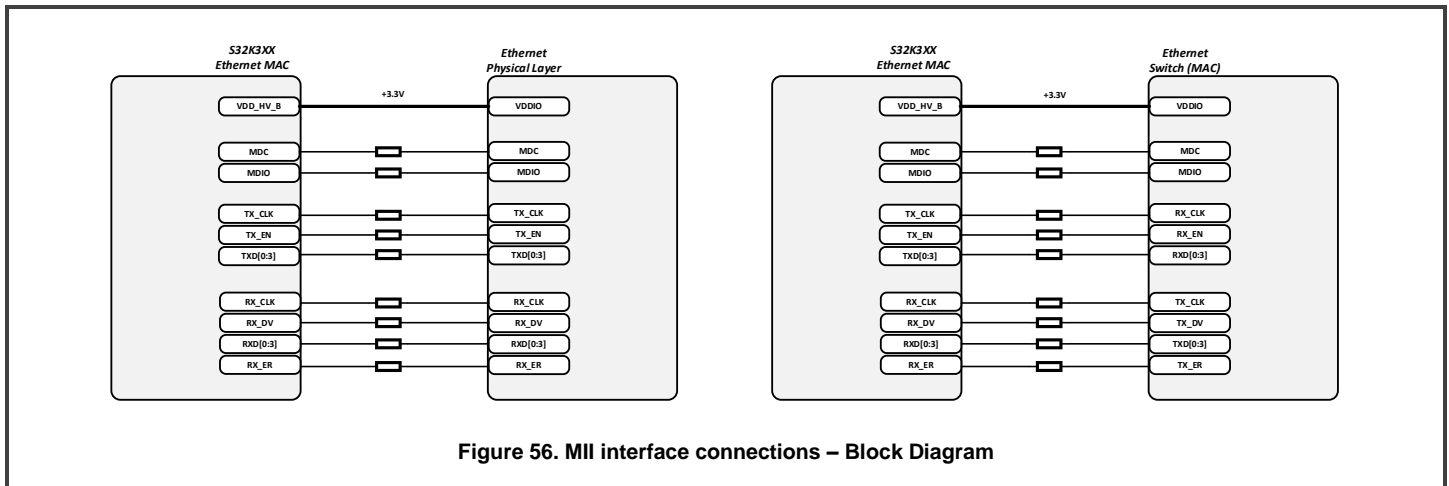

Figure 56. MII interface connections – Block Diagram
**MII signaling:** *Figure 56* shows the PHY-MAC and MAC-MAC connections in an MII interface. Data is exchanged via 4-bit wide data nibbles TXD[3:0] and RXD[3:0]. Data transmission is synchronous with the transmit (TX\_CLK) and receive (RX\_CLK) clocks. For the PHY-MAC interface, both clock signals are provided by the PHY and are typically derived from an external crystal running at a nominal 25 MHz or from the CLK\_OUT signal on the switch. When the Ethernet Switch is configured for MAC-MAC communication, the switch provides the clocks and acts like a PHY.